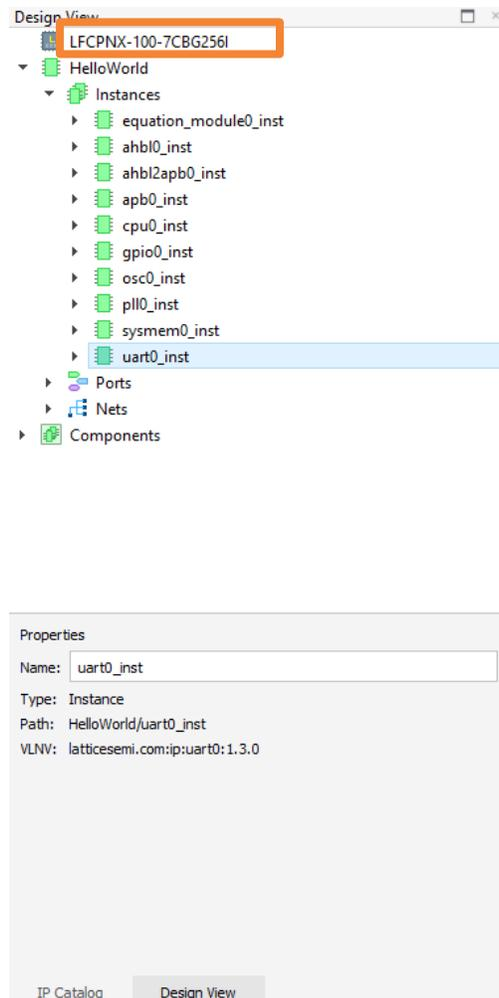

Figure 2.38 Design View of Device Part Number
- Click **Yes** to configure all IP in current project. The new device part number shows in Design View (Figure 2.38).